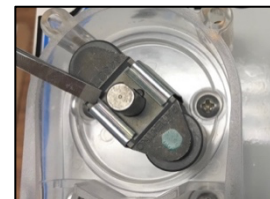

Figure 9
4. Slide roller assembly off motor shaft. For two roller configurations, first open the spring clip to release it from the motor shaft (Figure 9).